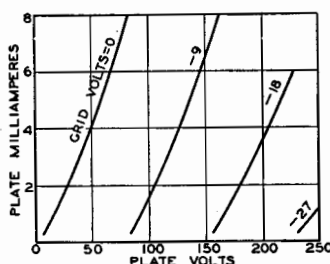
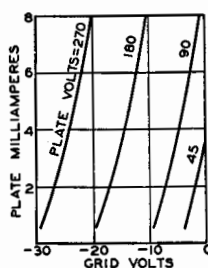

Fig. 1
Fig. 2
**Plate characteristic curves and transfer (mutual) characteristic curves** both give information on static characteristics. These curves present the same information, but in two different forms to increase its usefulness. The plate characteristic curve is obtained by varying plate voltage and measuring plate current for different control-grid bias voltages, while the transfer characteristic curve is obtained by varying control-grid bias voltage and measuring plate current for different plate voltages. A plate characteristic family of curves is illustrated by Fig. 1. Fig. 2 gives the transfer characteristic family of curves for the same tube.